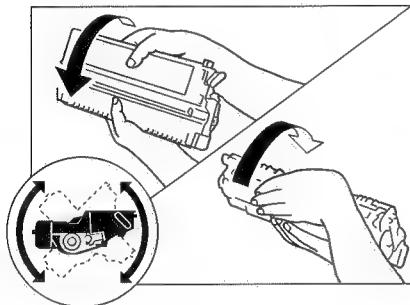

Figure 6-401
- Before setting the cartridge to the copier or if white spots appear on the copies as toner runs out, hold the cartridge level as shown in Figure 6-401 and rotate it about 90° in both directions several times to even out the toner inside it. Do not shake the cartridge in ways not instructed, or toner may leak from the developing assembly or the cleaning assembly.